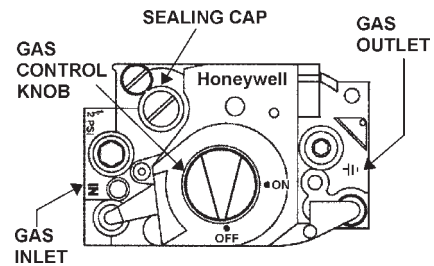

FIGURE 24.
3. Remove the regulator adjustment sealing cap and adjust the pressure by turning the adjusting screw with a screwdriver. See Figure 24.